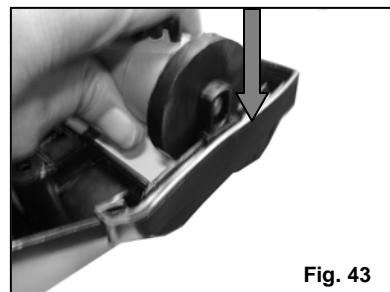

Fig. 43
11. Secure the left side of the brush roll into place and then rotate the end plate of the brush roll until it slides into place as well. (Fig. 43)